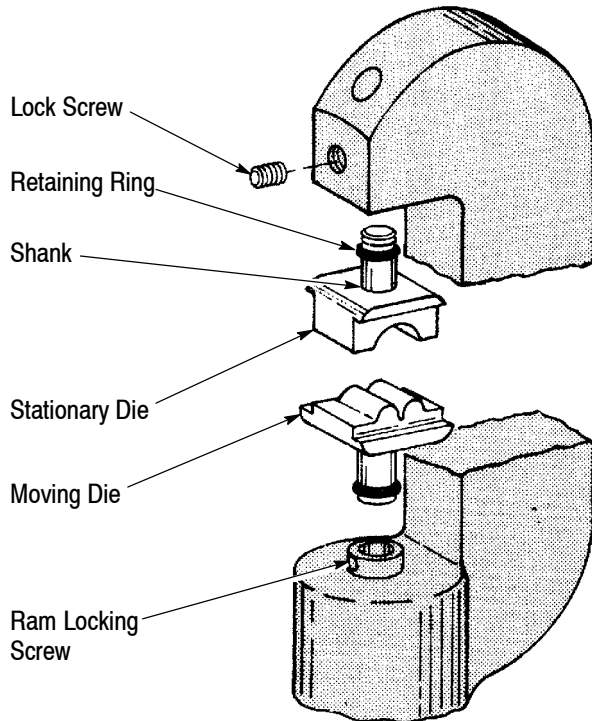

Figure 2
1. Loosen the lock screw in the top section of the crimping head. See Figure 2.
2. Insert the shank of the stationary die into the top section of the crimping head. See Figure 2. The retaining clip will hold the die in place.
4. Loosen the lock screw and insert the shank of the moving die into the ram well. See Figure 2. The retaining ring will hold the die in place.